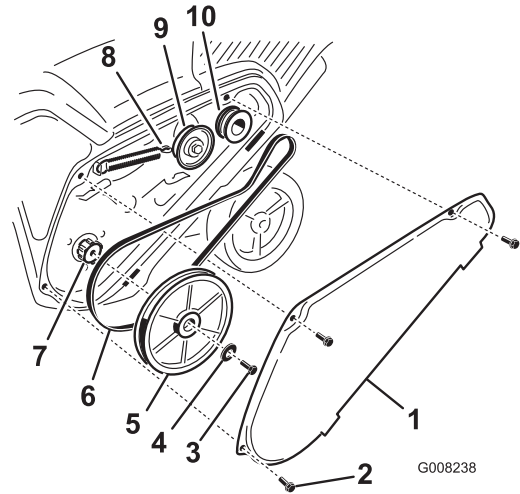

Figure 37
- Remove the drive belt cover by removing the 3 bolts as shown in Figure 37.
- Unhook the brake spring from the idler arm to release the belt tension (Figure 37).
- Remove the screw and curved washer that holds the rotor pulley (Figure 37).
- Remove the rotor pulley and the drive belt (Figure 37).
loose rotor pulley positioned just above the rotor shaft (Figure 37).
6. Install the rotor pulley onto the rotor shaft (Figure 37).
7. Install the curved washer and the rotor-pulley bolt and tighten them securely (Figure 37).